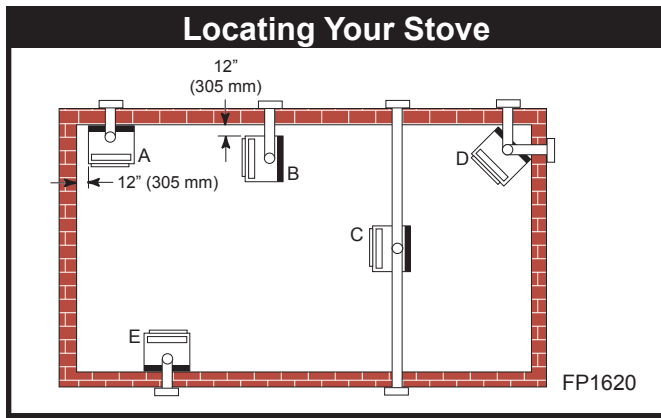

Fig. 2 Locate gas stove.
Note (Fig. 2): *(A) and (B) must maintain a 12" (305 mm) clearance between the wall and side glass of stove.